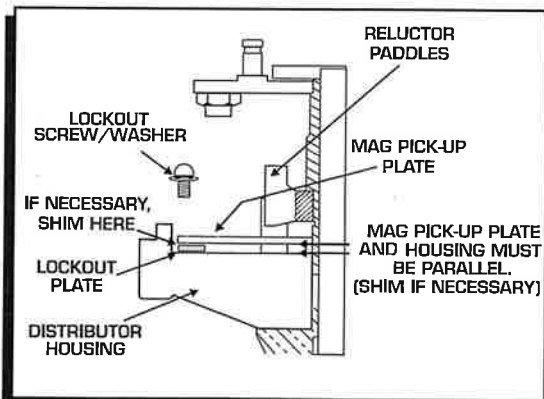

Figure 11 Checking Installation of the Lockout Plate.
5. Install the supplied screw and washer through the Lockout and tighten. It is important to make sure the pickup plate is parallel with the housing of the distributor (Figure 11). If it is cocked or slanted, the paddles of the reluctor may contact the pickup. Check the clearance by rotating the distributor shaft. If necessary, use the supplied shims under the Lockout hold-down to correctly position the pickup plate.